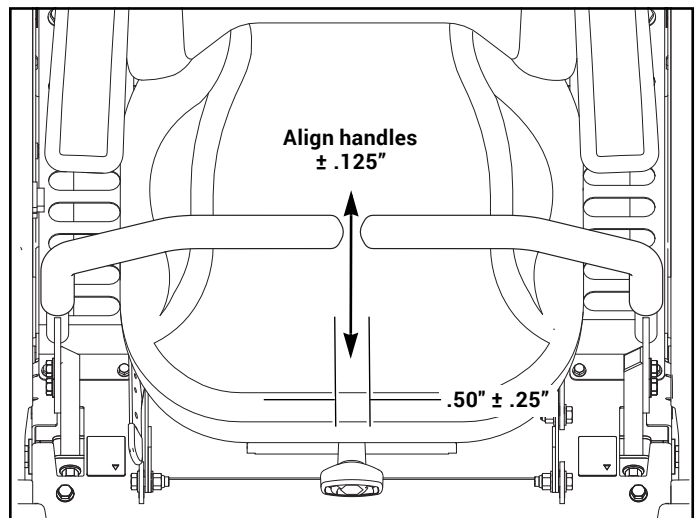

Figure 4-5
- From that point, turn the steering rod back again ½ turn. This ensures that the steering rod is adjusted so that the transmission control arm is centered in the neutral band of the transmission. Figure 4-5
11. The steering control levers should be adjusted so that they align within $\pm .125"$ ($\pm 3.2\text{mm}$) of each other when in the neutral position. Figure 4-5
NOTE: The space between the ends of steering control handles should be $.50" \pm .25"$ ($12.2\text{mm} \pm 6.35\text{mm}$). Figure 4-5